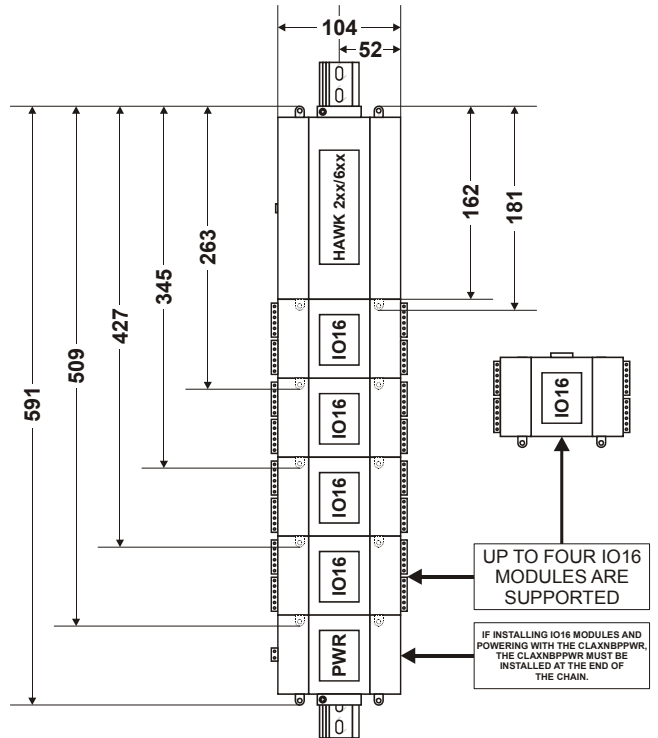

Fig. 3. Mounting dimensions
- **Plug-on modules:** To “chain” onto the HAWK 2xx/6xx’s 20-pin connector. See Fig. 3 and section “Plug-On Modules”.
maximum protection from electrostatic discharge or other forms of EMI, connect the supplied earth grounding wire to this lug and a nearby earth ground (see Figure 3 on page 11). Keep this wire as short as possible.